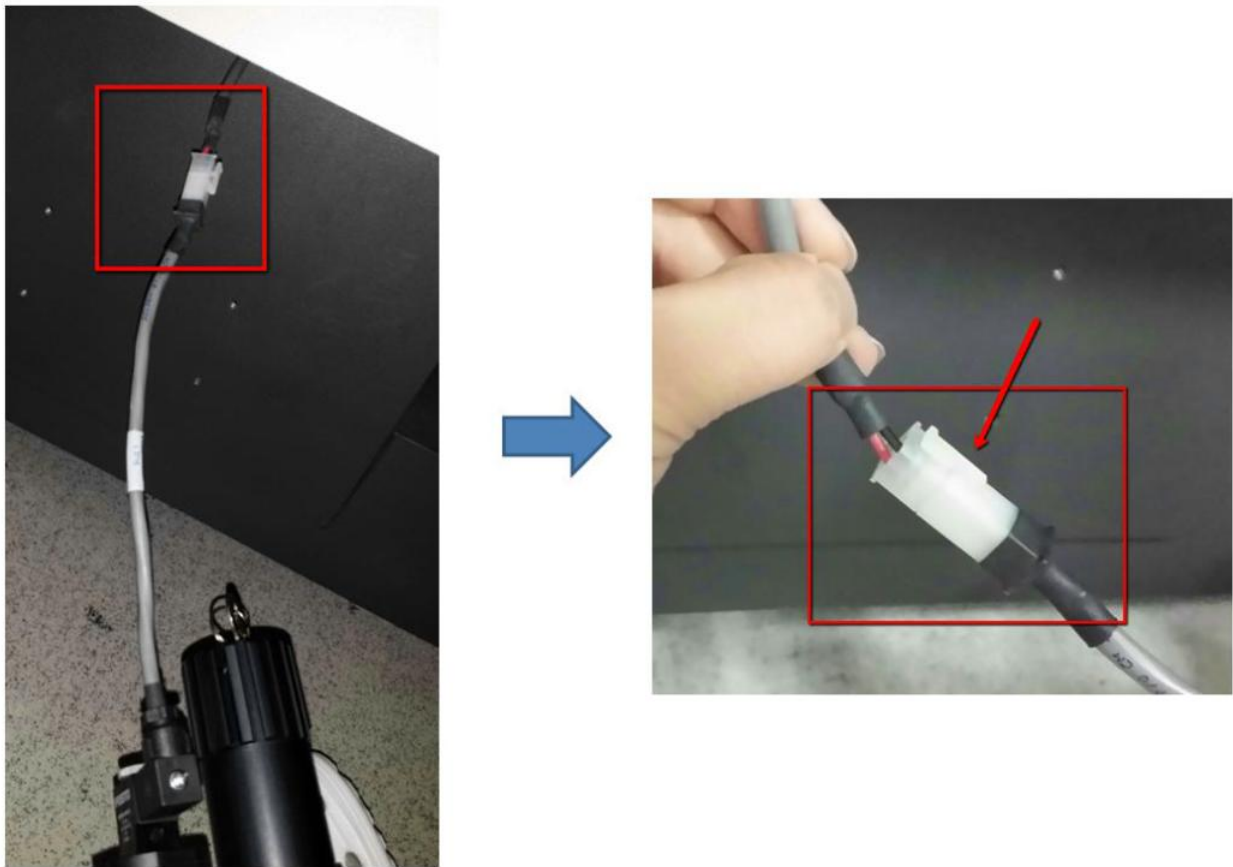

Figure 8 Valve Connector Removal
8. Remove the valve connector as below Figure 8.